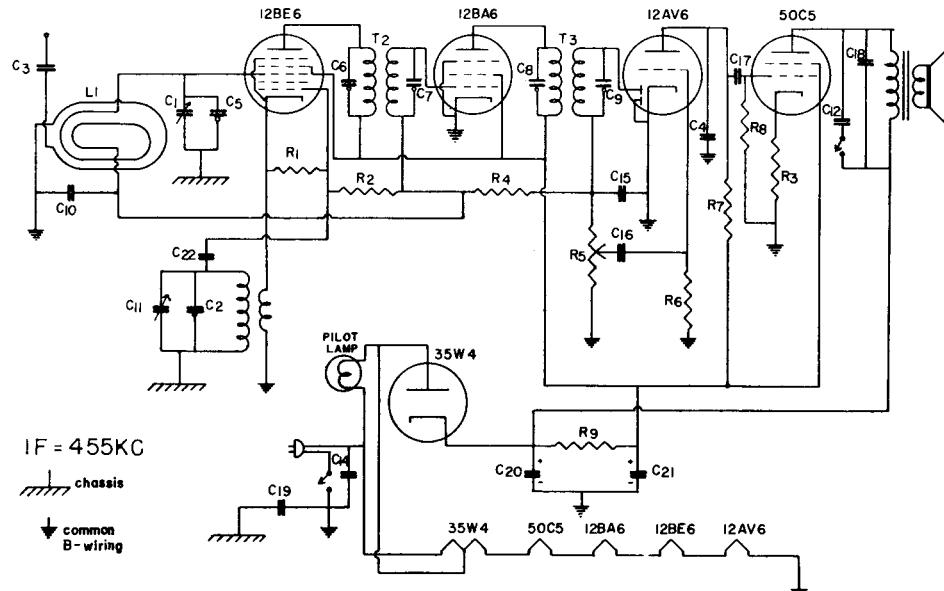

FIG. 17. Schematic diagram of a modern radio receiver.
Let us see how to trace signals through a tube receiver, using the Model 230 Signal Tracer. Later on you will see that the procedure on a transistor set is almost exactly the same. Fig. 17 shows a complete schematic diagram of the set. The various signal tracing steps are as follows.
7. Touch the probe to the antenna lead on the receiver (free lead at  $C_3$ ) in Fig. 17.